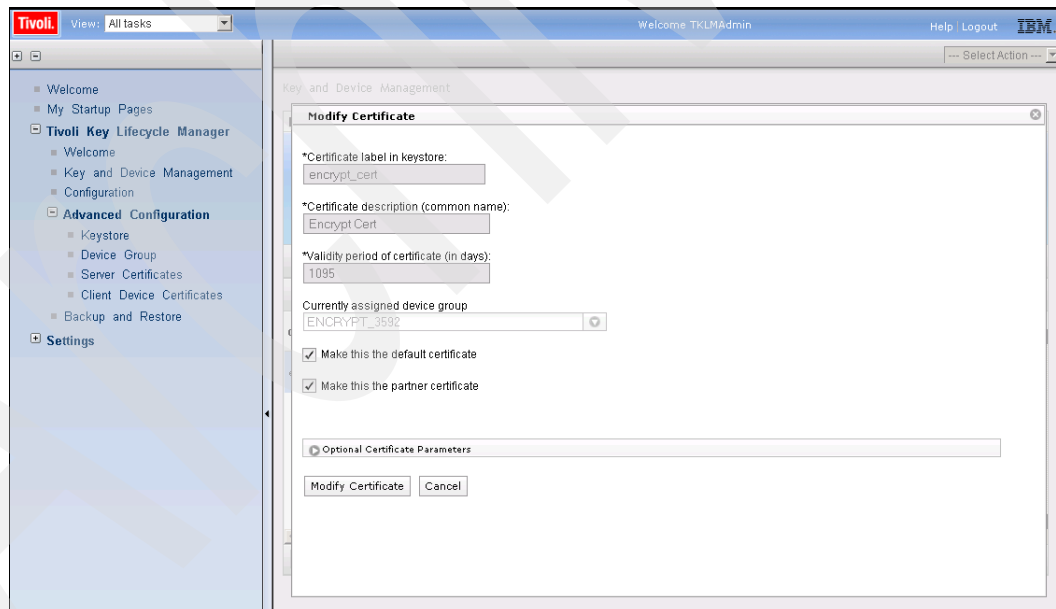

Figure 9-61 Modify certificate
4. The 3592 certificate can only be updated by checking or unchecking the two radio buttons that concern default and partner certificates, as shown in Figure 9-61.